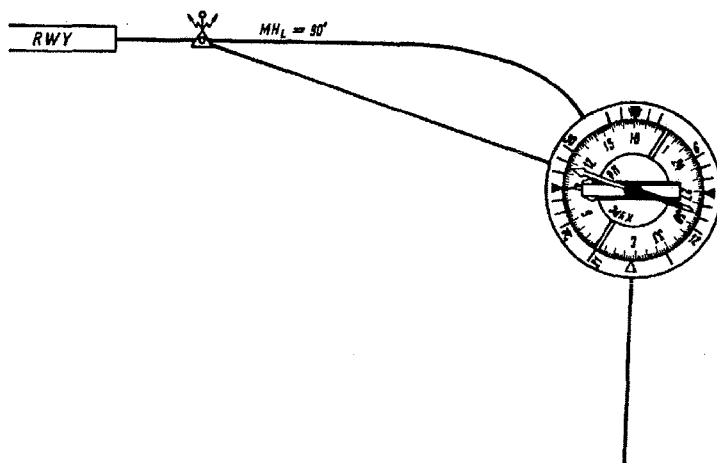

Fig. 4.4 Course Indicator Display before Capturing Landing
- (3) Initiate all the turns and abeam flying at the estimated moments of time and report to the flying control officer. At initiation of final turn the pointed end of the ADF pointer set close to the heading selector pointer upper edge to make an angle of about 15° with the latter (Ref. to Fig. 4.4).